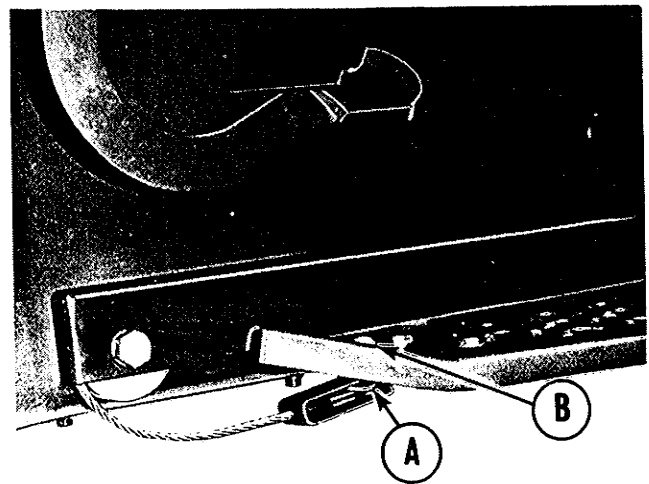
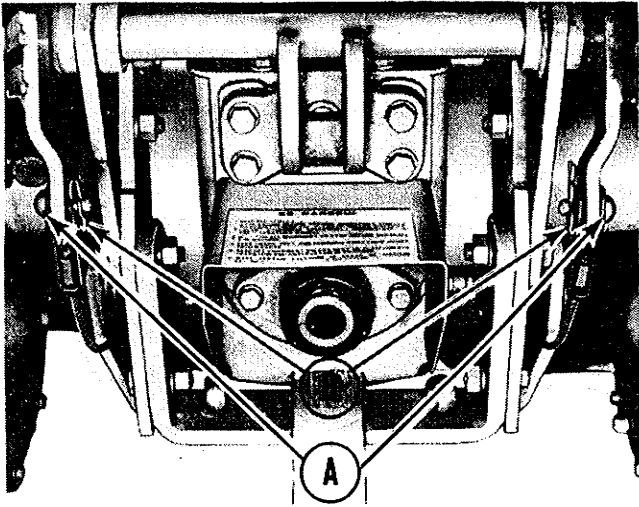

Figure 3. Center lift cable in storage position under footrest.
Figure 4. Center lift cables fastened to rockshaft at rear of tractor.
3. See figure 3. Remove the two center lift cables from their storage position under the footrests by removing the two spring clips (A) and pins (B).
4. See figure 4. Use the pins (A) and spring clips (B) removed in step 3 to fasten the rear of the lift cables to the rockshaft at the rear of the tractor.
6. See figure 4. Remove the spring clips and pins from the rockshaft at A. and use them to fasten the center lift cables in their storage position under the tractor footrests (figure 3).